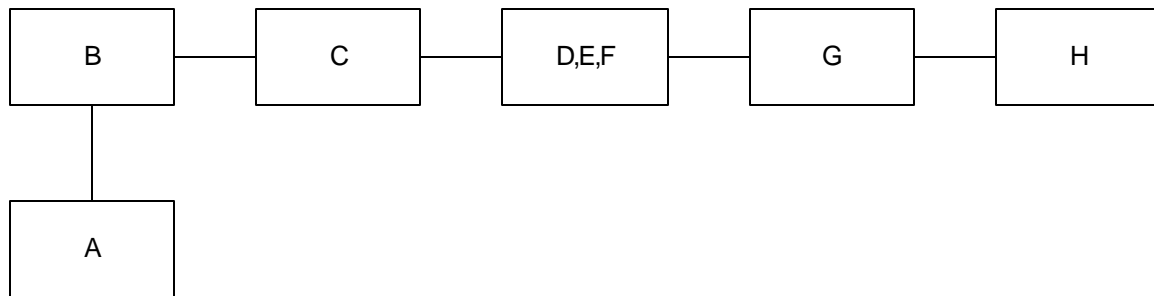

Figure 38: Spurious Emissions at Antenna Terminals (2000 - 11330 MHz) Test Setup
1. Connect the equipment as shown in Figure 38 above.